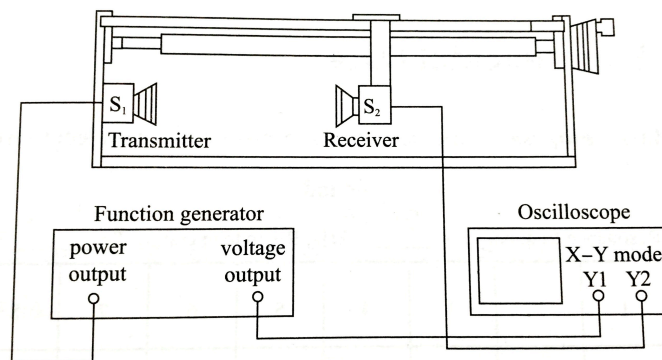

Fig. 3.13-7 The circuit configuration of phase comparison method
- (1) Set up the circuit as shown in fig 3.13-7.
- (2) Turn the TIME/ DIV of the oscilloscope fully anticlockwise to x-y mode.